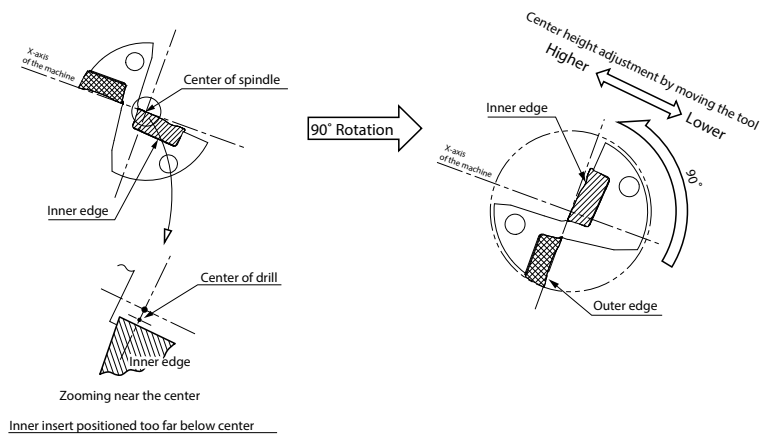

Fig. 9
2. If the core diameter becomes too large after the above adjustment, install the drill by rotating 90° counter-clockwise as shown in Fig. 9 (outer insert is positioned lower) and adjust the center height by moving the tool in the X-axis direction. (However, this will make it impossible to adjust the cutting diameter.)